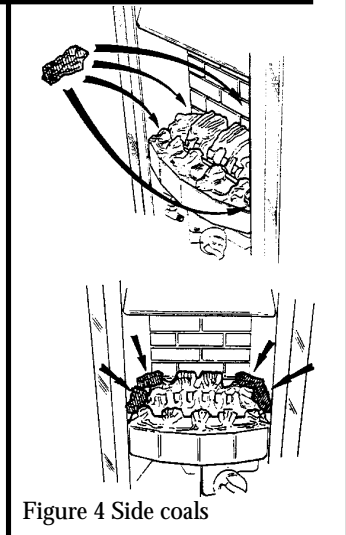

Figure 4 Side coals
3.1 Select the four rectangular shaped coals and position two on each side of the base ceramics. See figure 4.